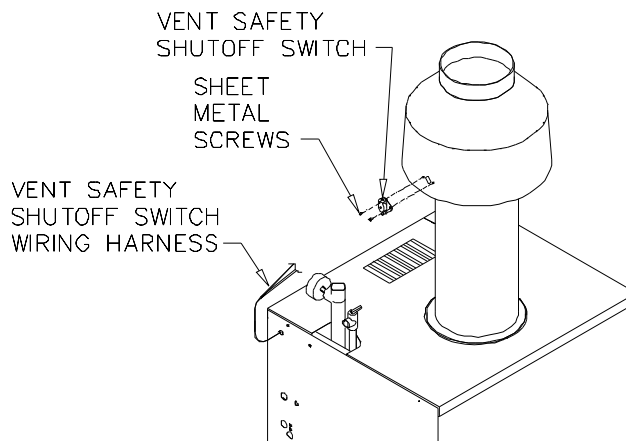

Figure 4.1: Draft Hood and Vent Safety Shutoff Switch Installation
2. Position draft hood with 1" (25 mm) diameter hole in conical portion of draft hood (for vent safety shutoff switch) towards front right corner of boiler. Secure to flue collector with sheet metal screws. See Figure 4.1.
3. The boiler is equipped with a vent safety shutoff switch. The switch is shipped in a cloth bag attached to the harness on the exterior of the boiler. Attach switch to holes in the conical portion of the draft hood using the screws provided in bag. See Figure 4.1.